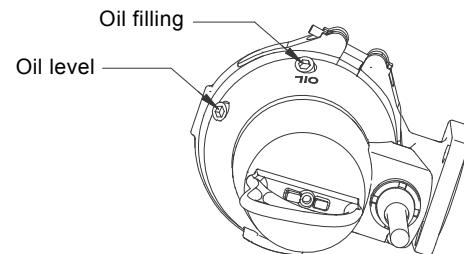

Fig. 11 Oil filling holes
1. Place the pump in such a position that it is lying on the stator housing and the outlet flange and so that the oil screws are pointing upwards. See fig. 11.